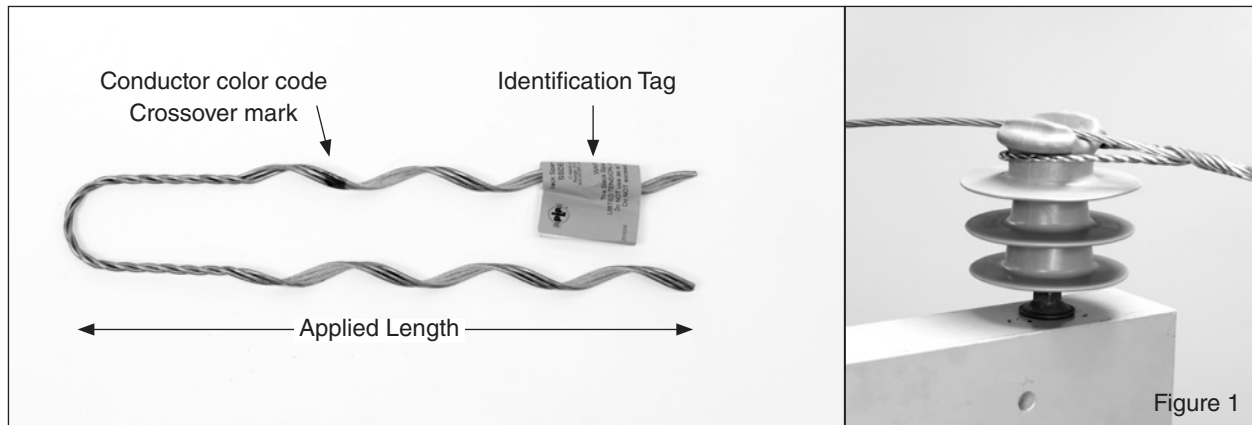

Figure 1
The Alloy Slack Span Dead-end is specifically designed to be installed on pin, line post or spool insulators when used in limited tension construction. Refer to Figure 1 for a typical installation.
- b. has a seat diameter (Illustration 2, Figure 1) consistent with the insulator neck diameters shown in Illustration 1.,